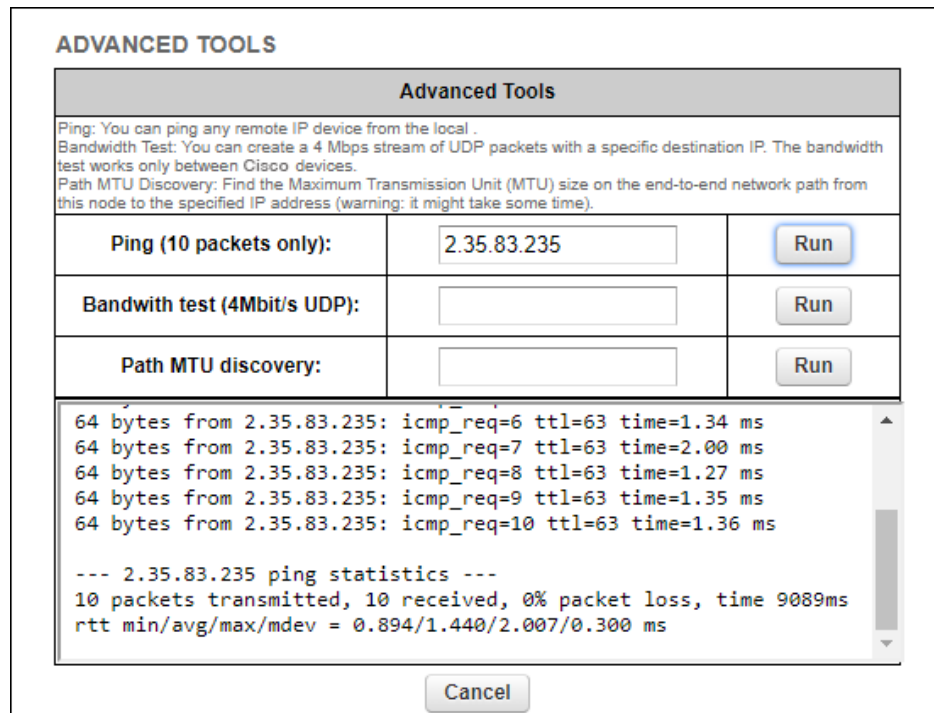

Figure 31. Advanced Tools window (Ping test tool)
2. Enter the IP address of the other unit in the **Ping (10 packets only)** field (Figure 31 \(page 101\)).